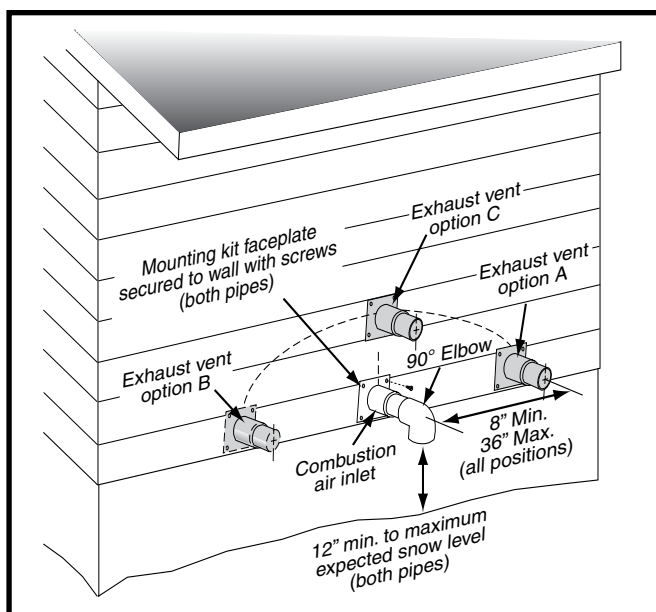
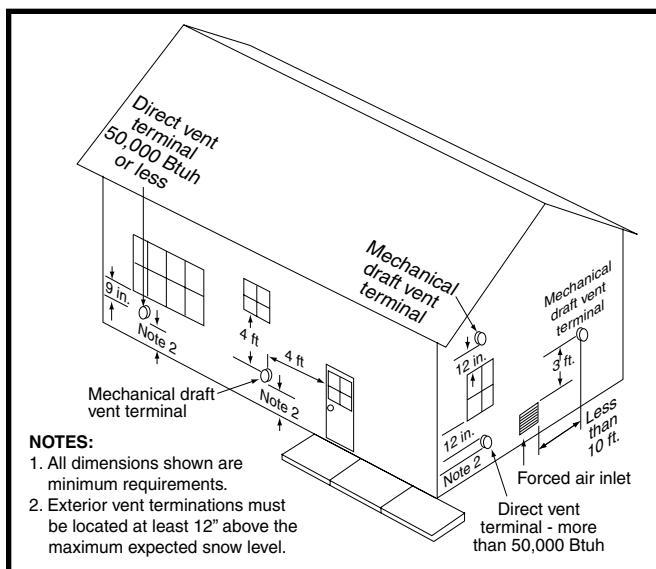
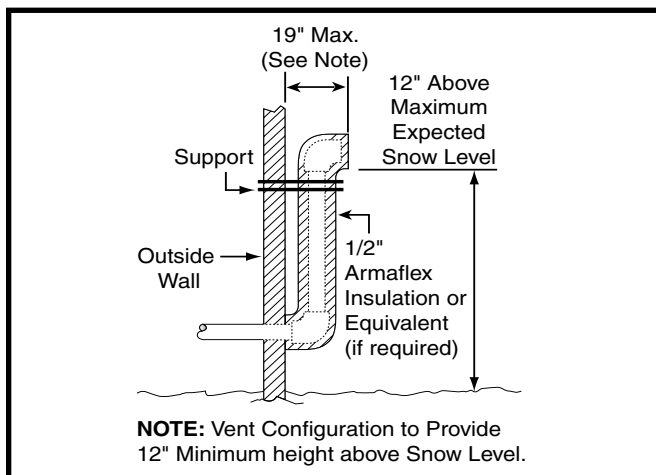
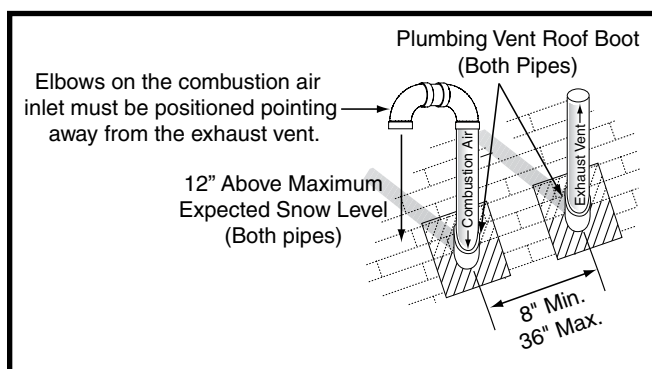

Figure 1. Inlet & Exhaust Pipe Clearances
Figure 2. Vent Locations
Figure 3. Alternate Horizontal Vent Installation
Figure 4. Vertical Vent Termination
- When a 2-pipe system is used, the combustion air intake and the vent exhaust must be located in the same atmospheric pressure zone. This means both pipes must exit the building through the same portion of exterior wall or roof as shown in Figure 1, Figure 2 & Figure 4 (page 9) and Figure 29 (page 38).
- Vent and combustion air intake terminations shall be installed as shown in Figure 1, Figure 2, Figure 3, & Figure 4 and in accordance with these instructions:
- All minimum clearances (Figure 2) must be maintained to protect building materials from degradation by flue gases.
- When the vent pipe must exit an exterior wall close to the grade or expected snow level where it is not possible to obtain clearances shown in Figure 1, a riser may be provided as shown in Figure 3. Insulation is required to prevent freezing of this section of pipe. See Table 3, (page 10) for vent freezing protection.
Termination spacing requirements from the roof and from each other are shown in Figure 4. The roof penetration must be properly flashed and waterproofed with a plumbing roof boot or equivalent flashing. Vent and combustion air piping may be installed in an existing chimney which is not in use provided that:
- The termination clearances shown in Figure 4 are maintained.